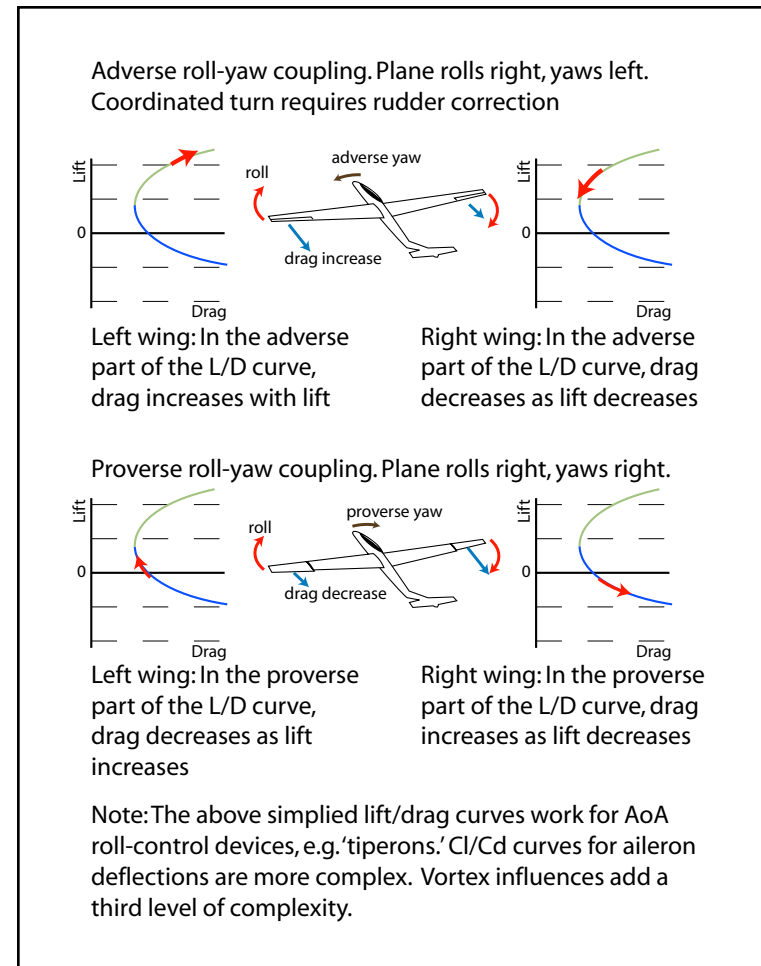

Figure 15: Roll-yaw coupling
See Figures 15 and 16
- 2: The effects of AoA (angle-of-attack) roll-control devices (tiperons, wingerons, and pitcherons, and AoA wing-warping). AoA devices *slide* L/D *along* the lift/drag curve. This is a two-dimensional, airfoil sectional analysis in which freestream velocities are assumed parallel to flight path. See figure 15